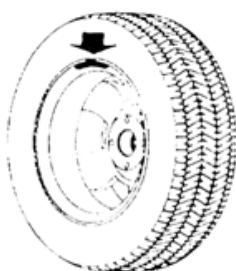

Figure 10-1
10.2.3 Slowly rotating wheel, when inside counterweight position indicator light all on, and show "OK", clip correspond counterweight on 12 o'clock position inside of rim, Figure 10-1;
10.5.3 Slowly rotating wheel, when inside counterweight position indicator light all on, and show "OK", clip the correspond counterweights on 12 o'clock position inside of rim refer to figure 10-1.